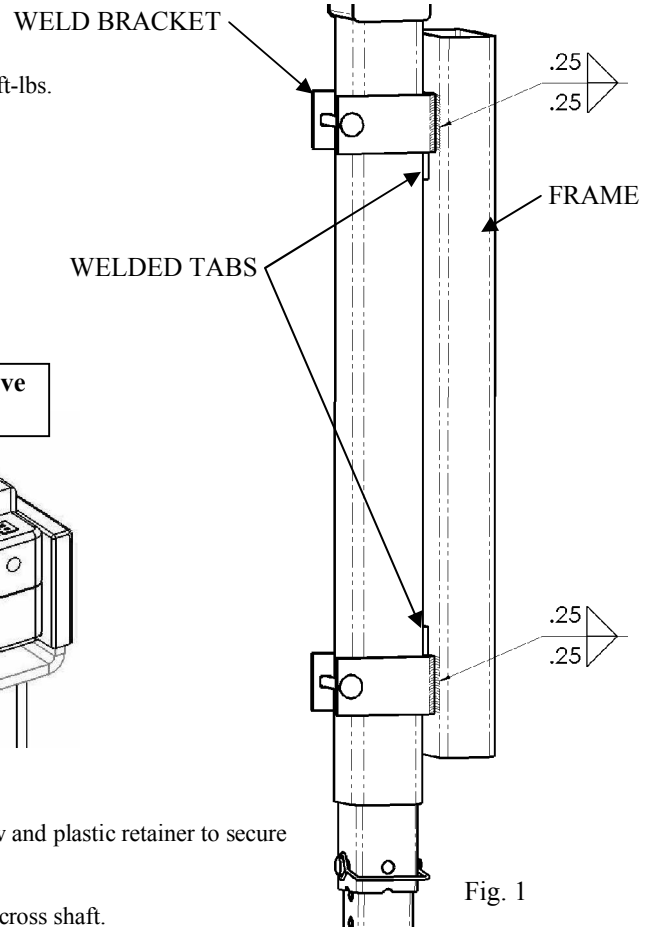

Fig. 1
- 1) Position weld brackets to frame member in such a manner so that welded tabs on jack are captured as shown in fig. 1.